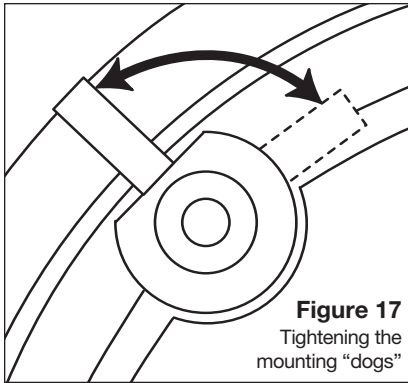

Figure 17
7. On both models, there are four clamps or mounting “dogs” which hold each speaker in place. The dogs are tightened via four front-baffle screws. To install the speaker, first rotate the dogs inward. Insert the speaker into the cutout and tighten the dogs by turning the screws clockwise. **DO NOT OVERTIGHTEN THESE SCREWS.** Over-tightening the clamps may make the grille difficult to install. (**See Figure 17**).